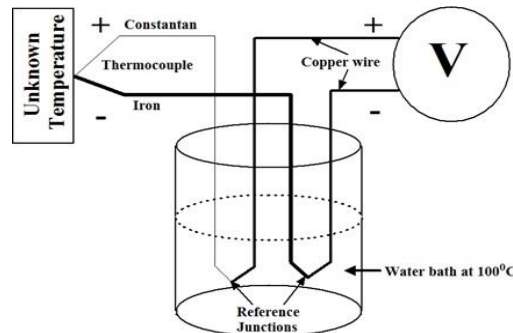

Fig Q1C
- 1C.** A thermocouple shown in **Fig Q1C**. has a transfer function linking its voltage output V and temperature input of T as: